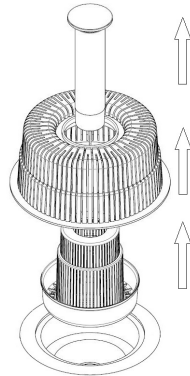

Fig.25
- 2- Manually remove the overflow and filters. (Fig.25)